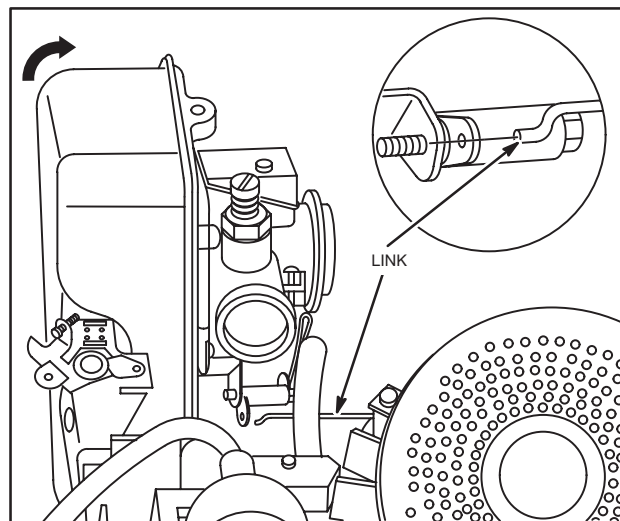

Fig. 222 – REMOVING FUEL TANK ASSEMBLY
3. This will leave governor spring and bell crank assembly on carburetor and fuel tank assembly, Fig. 222.